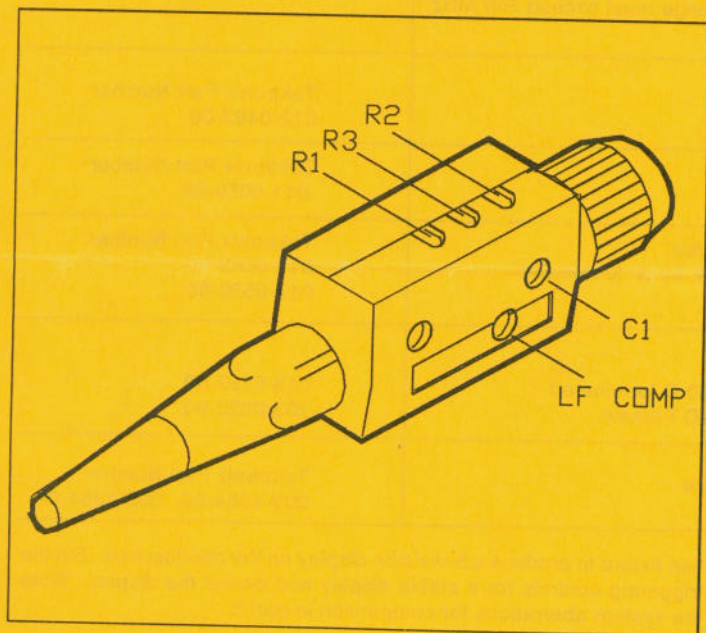
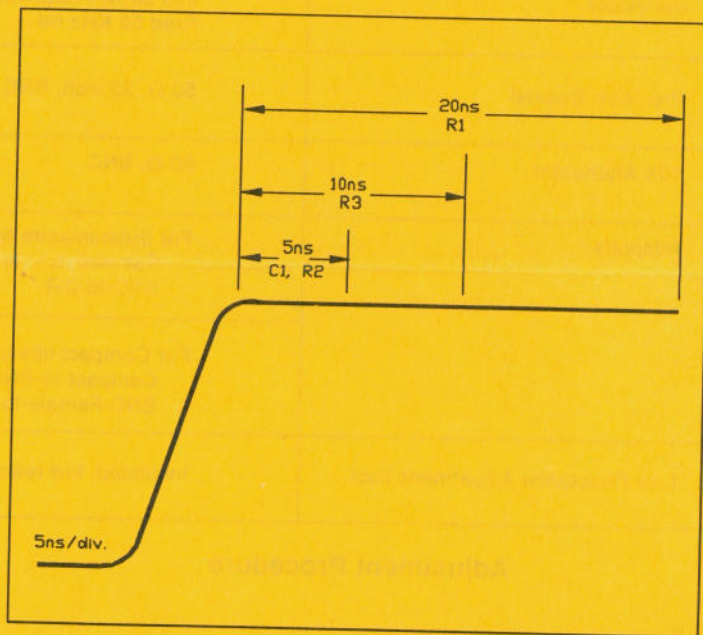

Figure 6. High-Frequency Adjustment Locations.
Figure 7. High-Frequency Adjustments Relative To Affected Areas Of The Waveform.
b. ADJUST—Low-Frequency compensation (LF COMP) using a low-reactance non-conductive adjustment tool for the squarest waveform front corner. See Figure 6. Disconnect the test setup.
c. To remove the plastic cover from the probe compensation box, first disconnect the probe from the signal source and the oscilloscope. Unscrew the compensation box retainer nut about two complete turns and lift the cover out and up, then re-tighten the retainer. Reconnect the probe (as in part 2b). See Figure 6 for the location of all adjustments, and Figure 7 for identification of the waveform area affected by each adjustment. ADJUST R1 for best overall flat response. ADJUST R3, R2, and C1 for best corner response. The high-frequency adjustments affect the probe bandwidth. A small overshoot on the leading edge of the pulse may be necessary to meet the bandwidth specification. Reinstall the compensation box cover by reversing the procedure described above.